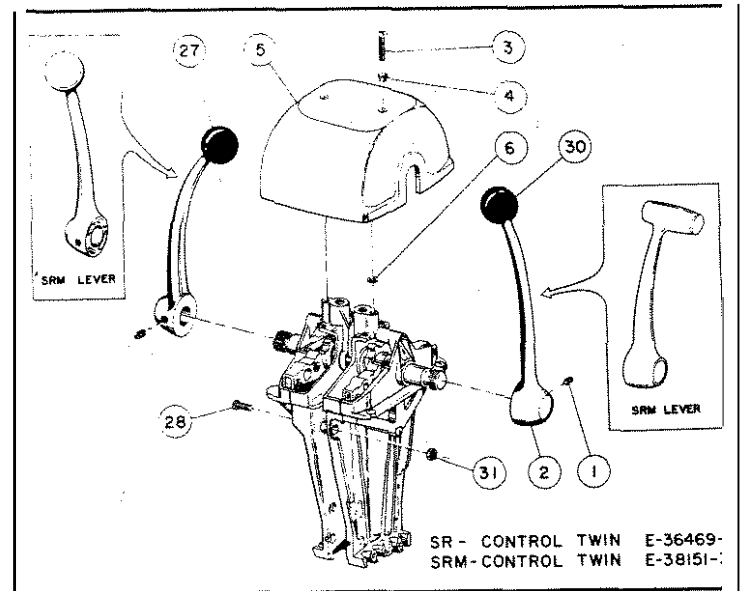

FIGURE 8
- a. Typical dual station applications are shown in Figure 8.